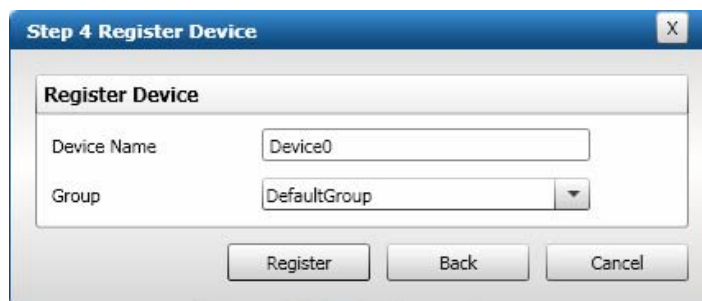

Figure 6-8: Step 4 Register Device Dialog Box
9. Click **Next**. The Step 4 Register Device dialog box is displayed (see Figure 6-8).